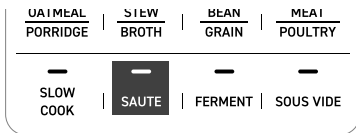

Figure 6.2
2. Select **SAUTE** and press the **-** or **+** buttons to adjust the time. [Figure 6.2]